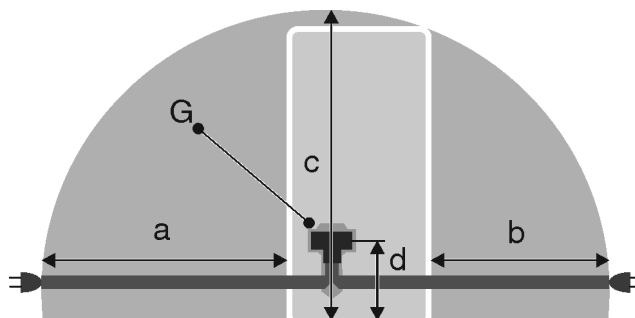

Fig. 52
- The socket is outside the back of the appliance area in the specified area *Fig. 52 (a, b, c)*.
- ▶ Insert the appliance plug *Fig. 52 (G)* into the back of the appliance. Ensure that it clicks into place.